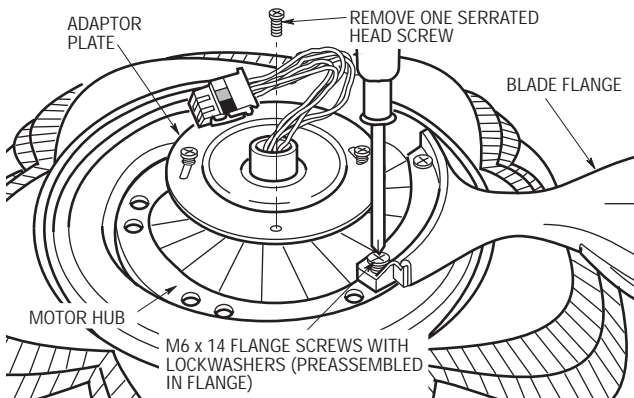

Figure 6
- 9. Loosely attach one blade assembly to the motor hub using two M6 x 14 flange screws with lockwashers preassembled in flange (Figure 6). Make sure the screws are **NOT** tightened. Repeat this procedure for the other four blade assemblies.
- 11. Remove and retain one of the three serrated head screws from the adaptor plate (Figure 6). Loosen the other two serrated head screws, three or four turns.